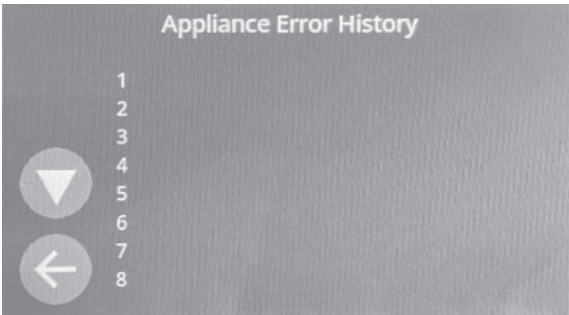

Figure 46
- 3. Press  button to view the appliance error history. This screen (Figure 46) will show the last 64 errors that have occurred on the oven.